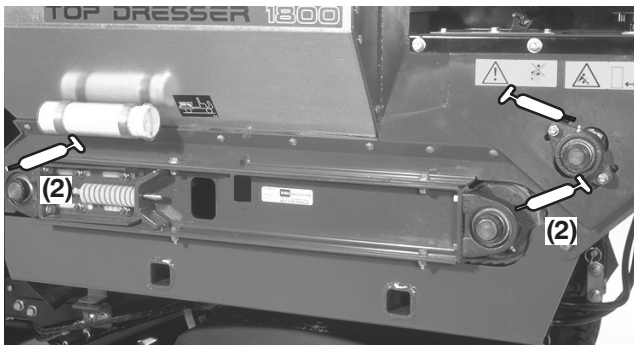
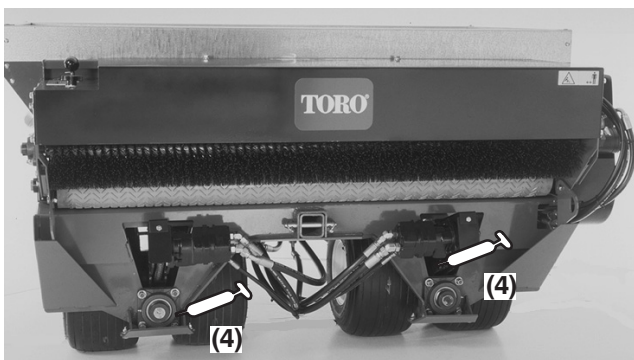

Figure 10
Figure 11
The grease fitting locations and quantities are: Roller shaft bearings (4) (Fig. 10), Brush shaft bearing (1) (Fig. 10), Pivot bearings (4) (Fig. 11) and Wheel bearings (4) (Fig. 11).